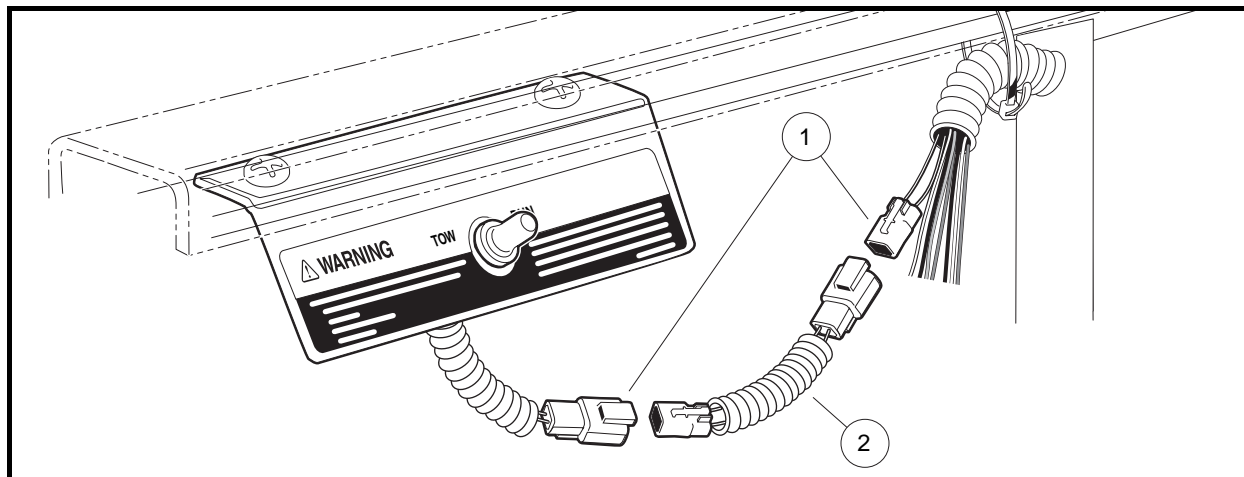

Figure 13-12 Install IQ System Main Dropout Harness
1. Disconnect the two-pin connector (1) at the Tow/Run switch (**Figure 13-12, Page 13-16**).
2. Connect the IQ main dropout harness (2) between each end of the two-pin connector.